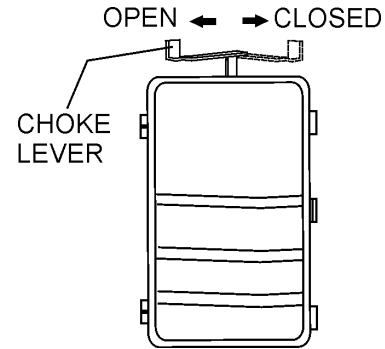

Figure 12. Choke Lever
2. Place the **choke lever** (Figure 12) in the "CLOSED" position if starting a **cold** engine.
3. Place the **choke lever** (Figure 12) in the "OPEN" position if starting a **warm engine** or the **temperature is warm**.
- If the engine has started, slowly return the choke lever (Figure 12) to the **"OPEN"** position. If the engine has not started repeat steps 1 through 5.